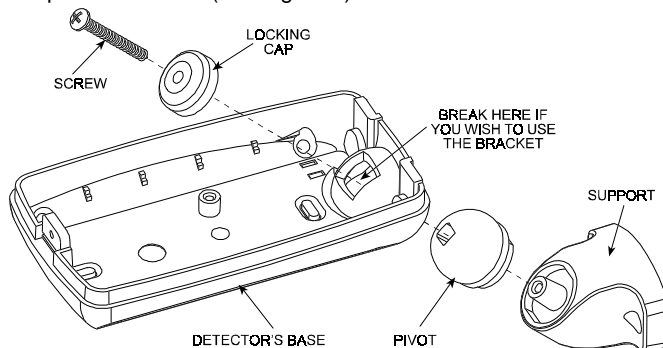

Figure 6. Attaching the Bracket
C. Punch out the large knockout in the round bulge at the top part of the base (see Figure 6)
D. Assemble the bracket as shown in Figure 6.